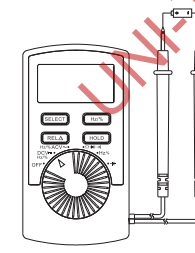

Figure 2
1.Measuring DC Voltage(See Figure 2)